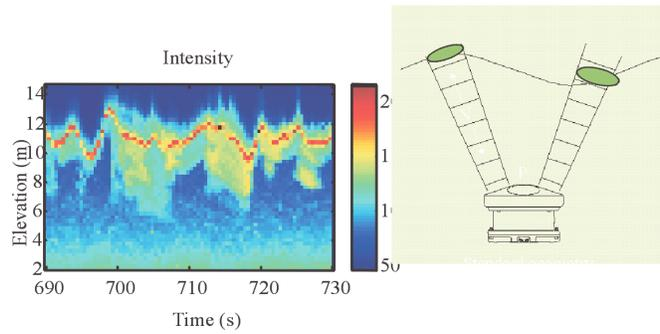

Figure 19. Height Spectrum – Echo Intensity
- The surface track is direct measurement of the surface and is not frequency dependent except for the resolution of the echolocation of the surface (see Figure 19, page 65).